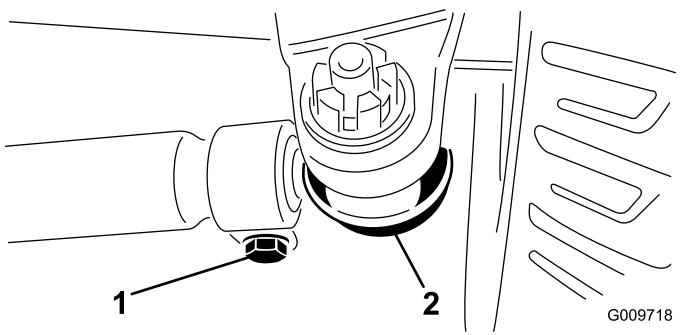

Figure 114
5. Loosen the clamps at both ends of the tie rods (Figure 114).
3. To adjust the toe-in, remove the cotter pin and the nut from either tie-rod ball joint (Figure 114).